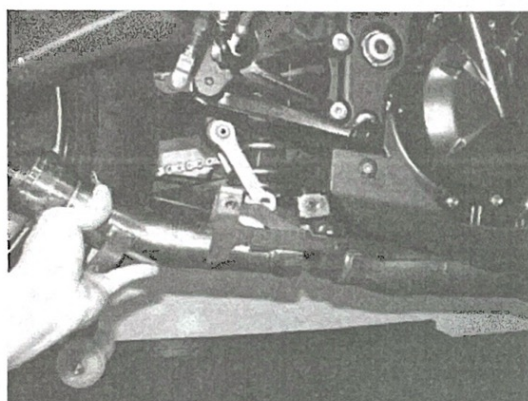

Figure 24
2. For SLIP-ON with optional link-pipe only: slide the optional link pipe onto the stock collector and tighten the bolt of link-pipe bracket-frame joint (Figure 24, 25).